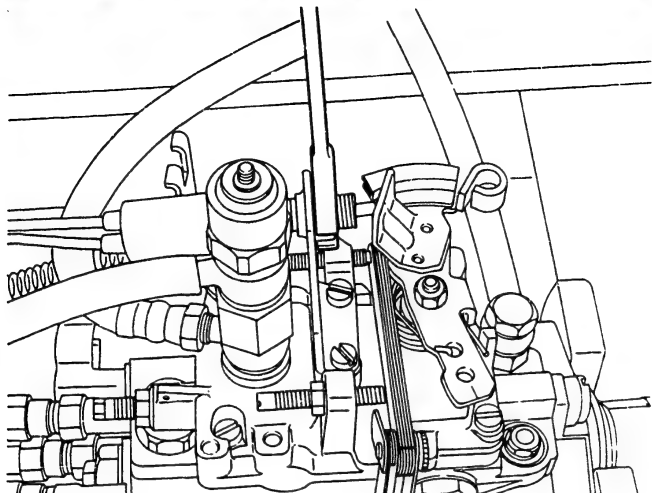

Fig. 196 Adjusting the accelerator switch position
4. When the distance between the tip of the maximum-speed adjusting screw and the control lever is as specified, adjust the accelerator switch position so that the switch is "ON", and then fix it. (Fig. 196)